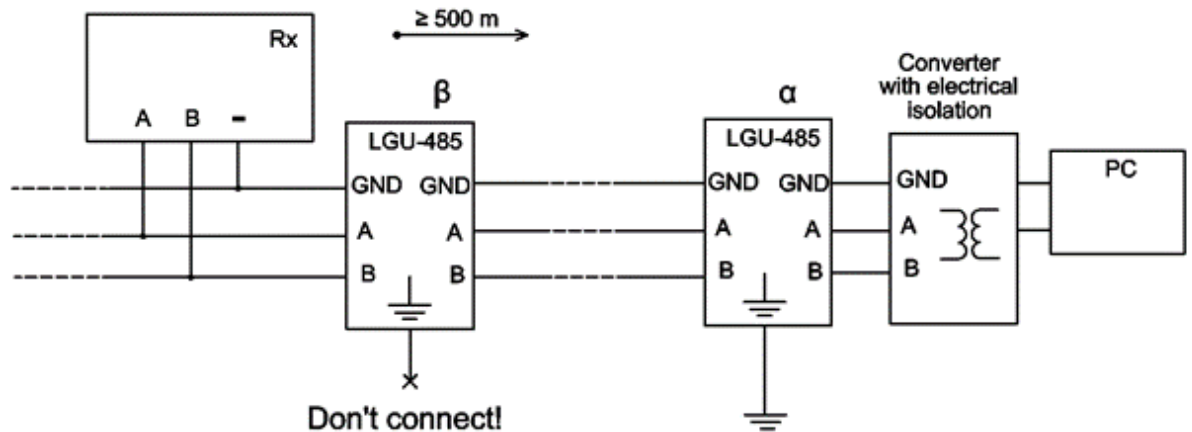

Figure 2.13 – Example of lightning protection of the line RS-485
- 2.3.8.12.2 The example of lightning protection of the line RS-485 is given in Figure 2.13. The lightning guard unit  $\alpha$  is recommended for use in all the situations. The